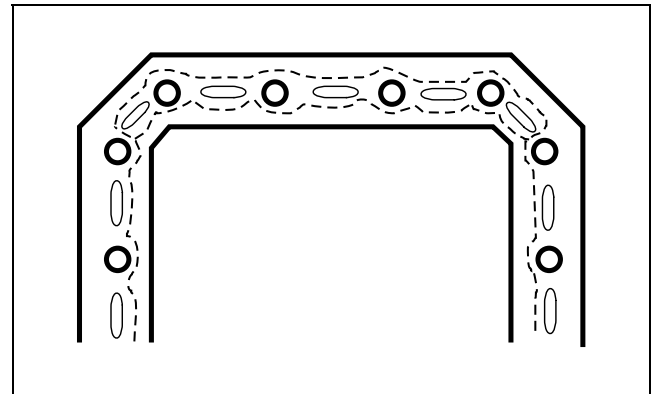

Figure 81a
**XUD9AI Engine:** Apply silicone sealant to the oil pan using the pattern shown in Figure 81a. Wait 10 minutes before installing the oil pan to allow partial hardening of the gasket material.